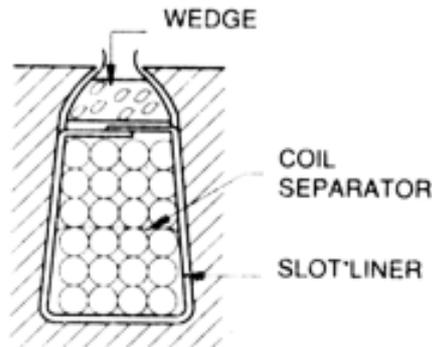

Fig.3.8 - Slot Insulation
**Slot Liner :** The slot liner is an insulation sheet cut to the inner dimensions of the slots and projected on either side of the slots. In some applications, the edges of the slot liner are folded on either end to prevent them from sliding in the slots, as shown in Fig. 3.8.
**Coil Separator :** When multilayer windings are used, to insulate the winding layers from each other, coil separators are used, as shown in Fig. 3.8. They should be extended on either side of the slot.
**Packing Strip :** The thick insulation paper used in between the slot liner and wedge is called a packing strip, as shown in Fig. 3.8. This should extend beyond each end of the armature core.
**Wedge :** It is a solid insulation piece like bamboo or fibre used to prevent the conductors from coming out of the slots. It should be tightly held in the slots, as shown in Fig. 3.8.